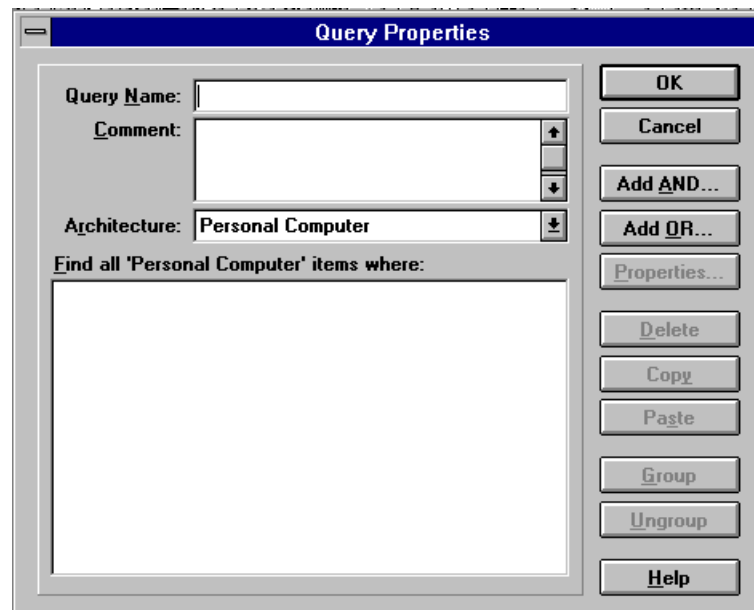

Figure 6-1. Adding a new query
3. Press **Ctrl+N** to add a new query. The Query Properties window is displayed as shown in Figure 6-1.